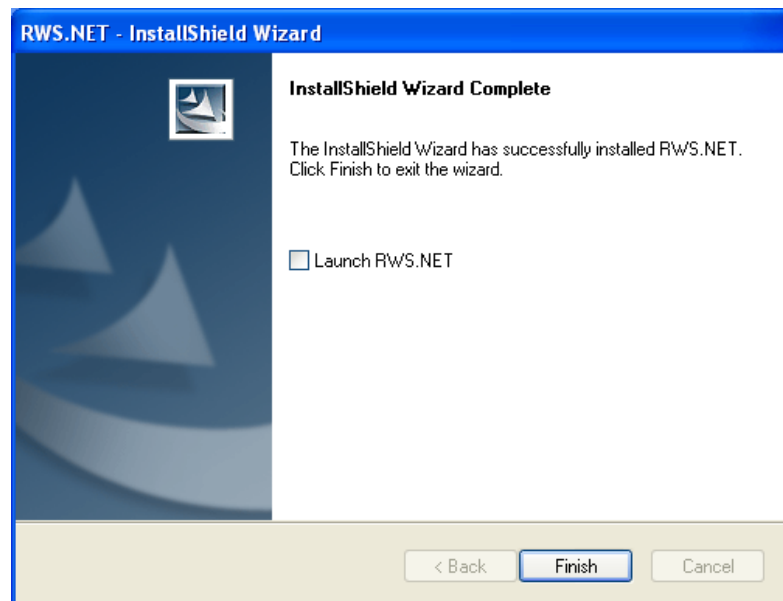

Figure A-11: InstallShield Wizard Complete
- Click **Install** and wait until the *InstallShield Wizard Complete* window indicates the process is complete (Figure A-11).
- Uncheck **Launch RWS.NET** (Figure A-11), and then click **Finish** to exit the installation.